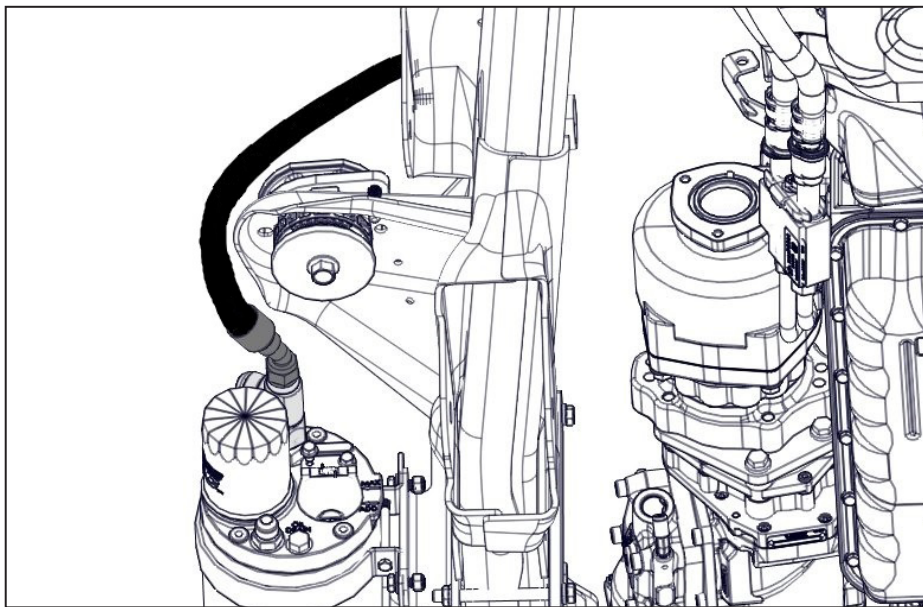

Figure 65 — Connect oil fill hose
- ☐ Routing the 3/4 in oil fill hose around the body mount, connect the 45° fitting to the Tee on the AOST (Figure 65).